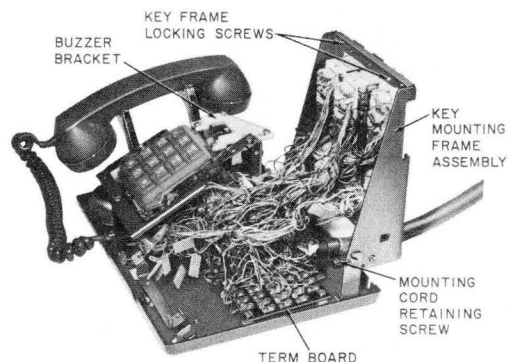
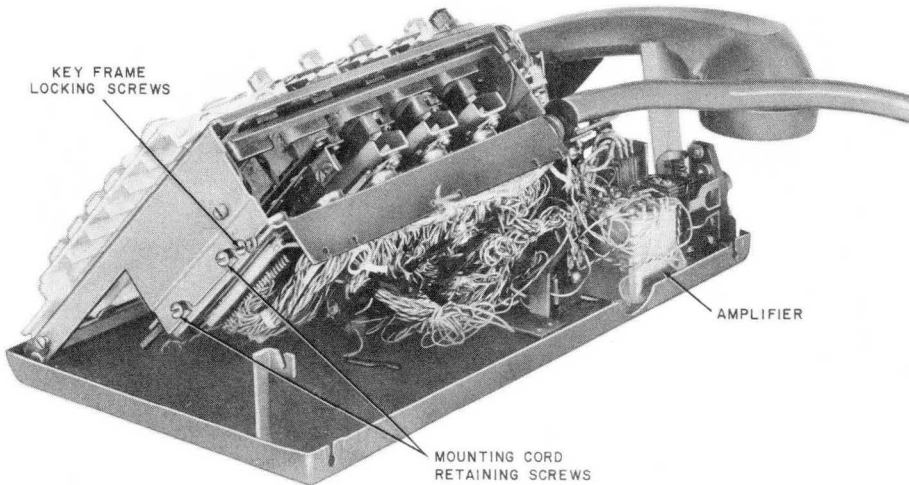

Fig. 21—Key Frame Set Raised in Current Production Telephone Set
Fig. 22—Key Frame Raised on Early Production Telephone Set
- (1) Remove housing.
- (2) Remove mounting cord clamp.
- (3) Loosen key frame locking screws. [Located on front of key frame on current production telephone sets (Fig. 21) and on the side of key frame on early production sets (Fig. 22).
- (4) Raise key frame (Fig. 21 and 22).
- (5) Remove dial mounting plate (do not disconnect leads).
- (6) Disconnect mounting cord leads at network, terminal board, and amplifier (when provided).
(7) Remove mounting cord retaining screws on each side of key frame (early production sets).
(8) Pull down on mounting cord frame to disengage plugs from key connectors on early production sets or disconnect individual 508- or 509-type plugs on current production sets.
(9) Install cord assembly in reverse order.